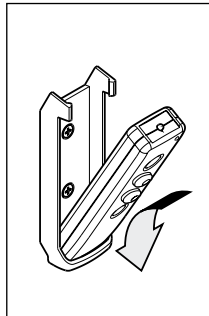

Fig. 29
5. Swing the top of the handset into the cradle (Fig. 29 - 30.)